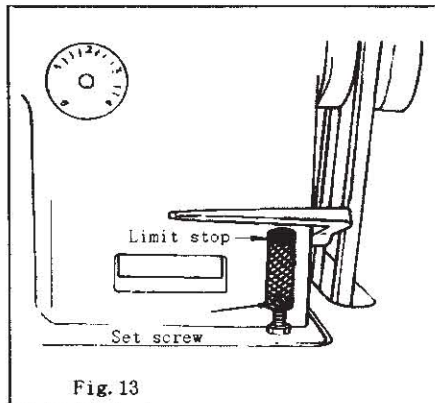

Fig. 13
11、 To adjust stitch length (Fig.13)
1. Turn the feed regulating dial in the way shown in fig13. The value of graduation is shown in millimetre(mm).